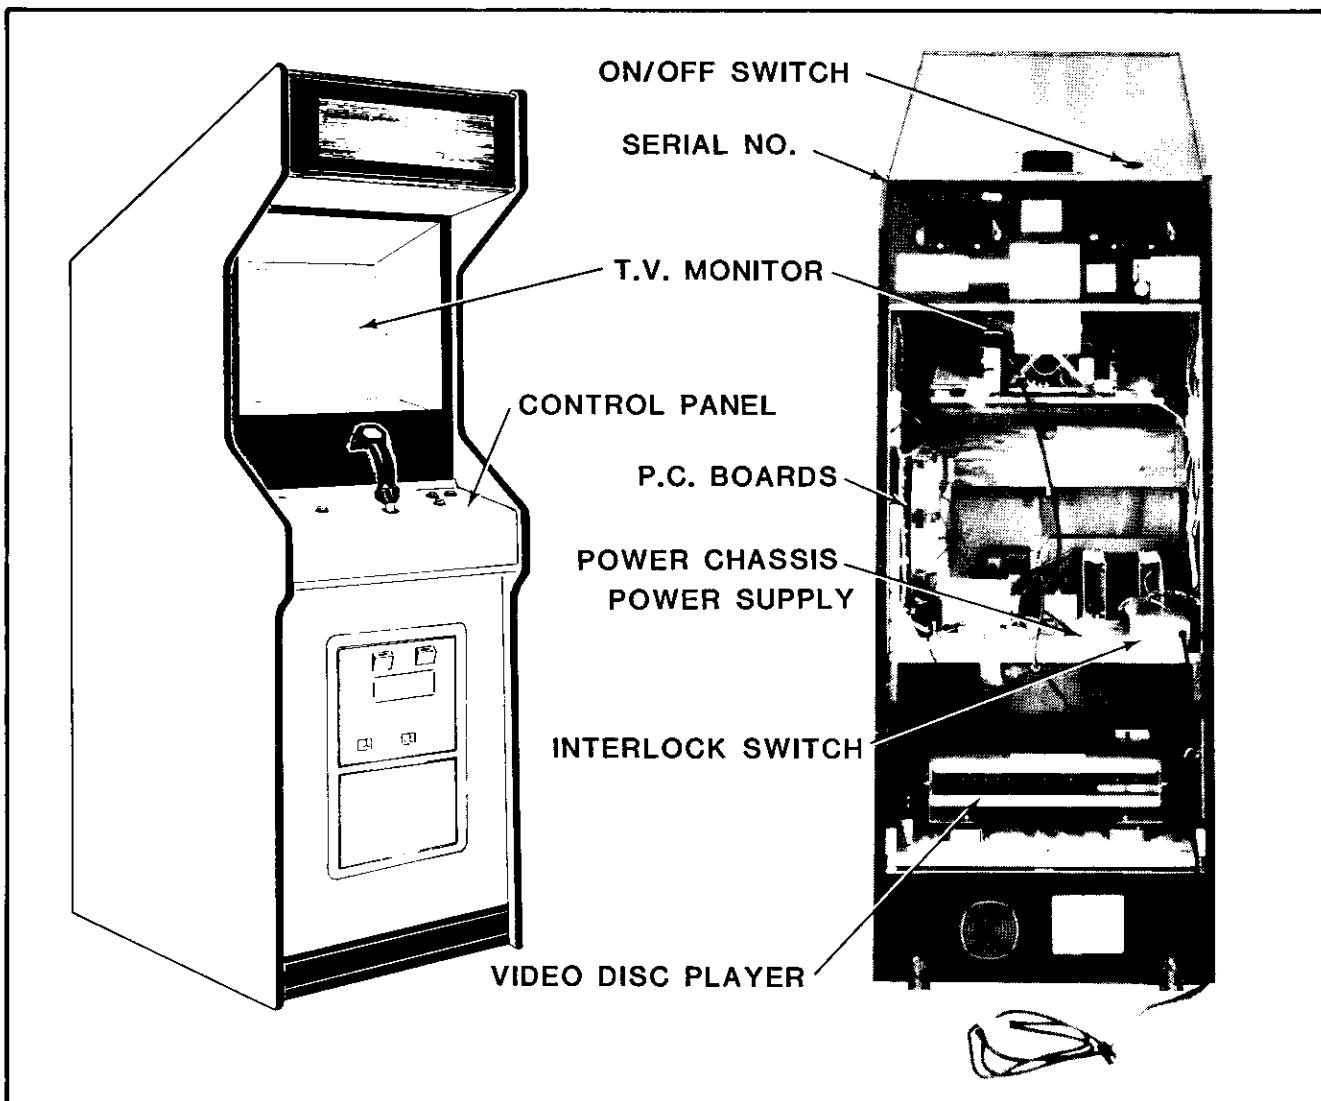

Figure 1-2 Location of Serial No., Interlock Switch, & Major Sub-Assemblies
5. Open the cabinet and inspect the inside of the game for any signs of damage. See Figure 1-2.
Make sure all printed circuit boards (P.C.B.'s) are firmly seated in their connectors. See Figure 1-2. These connectors are also keyed. The P.C.B.'s will only go in to them one way
Note the location of the games serial number. See Figure 1-2.
Check all major subassemblies to be sure they are mounted securely. These are called out in Figure 1-2.
3. Interlock and power ON/OFF switches. See Figure 1-2.
The game ON/OFF switch is located as shown in Figure 1-2. Turn the game on and allow it to warm up a few minutes.